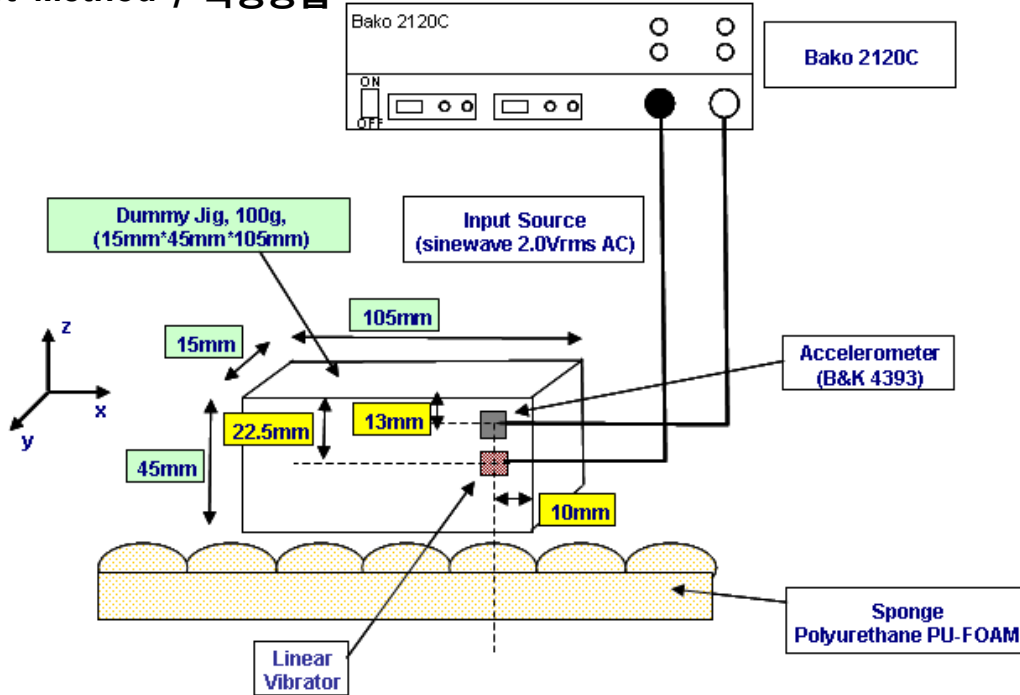

Figure 1. An Example of Measurement Method of Linear Vibrator
■ Linear Vibrator/ Accelerometer mounting position (refer to Figure 1)